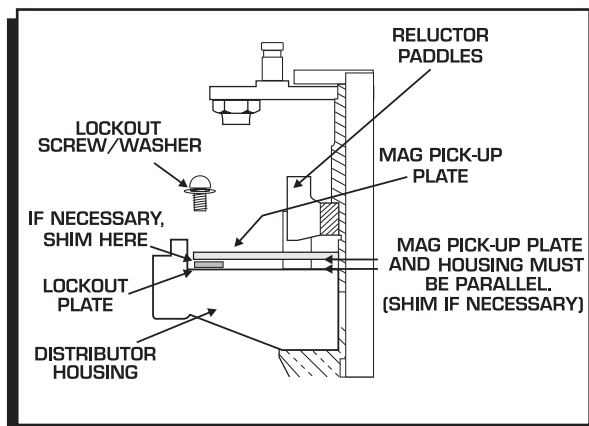

Figure 13 Checking Installation of the Lockout Plate.
6. It is important to make sure the pickup plate is parallel with the housing of the distributor (Figure 13). If it is cocked or slanted, the paddles of the reluctor may contact the pickup. Check the clearance by rotating the distributor shaft. If necessary, use the supplied shims under the Lockout hold-down to correctly position the pickup plate.